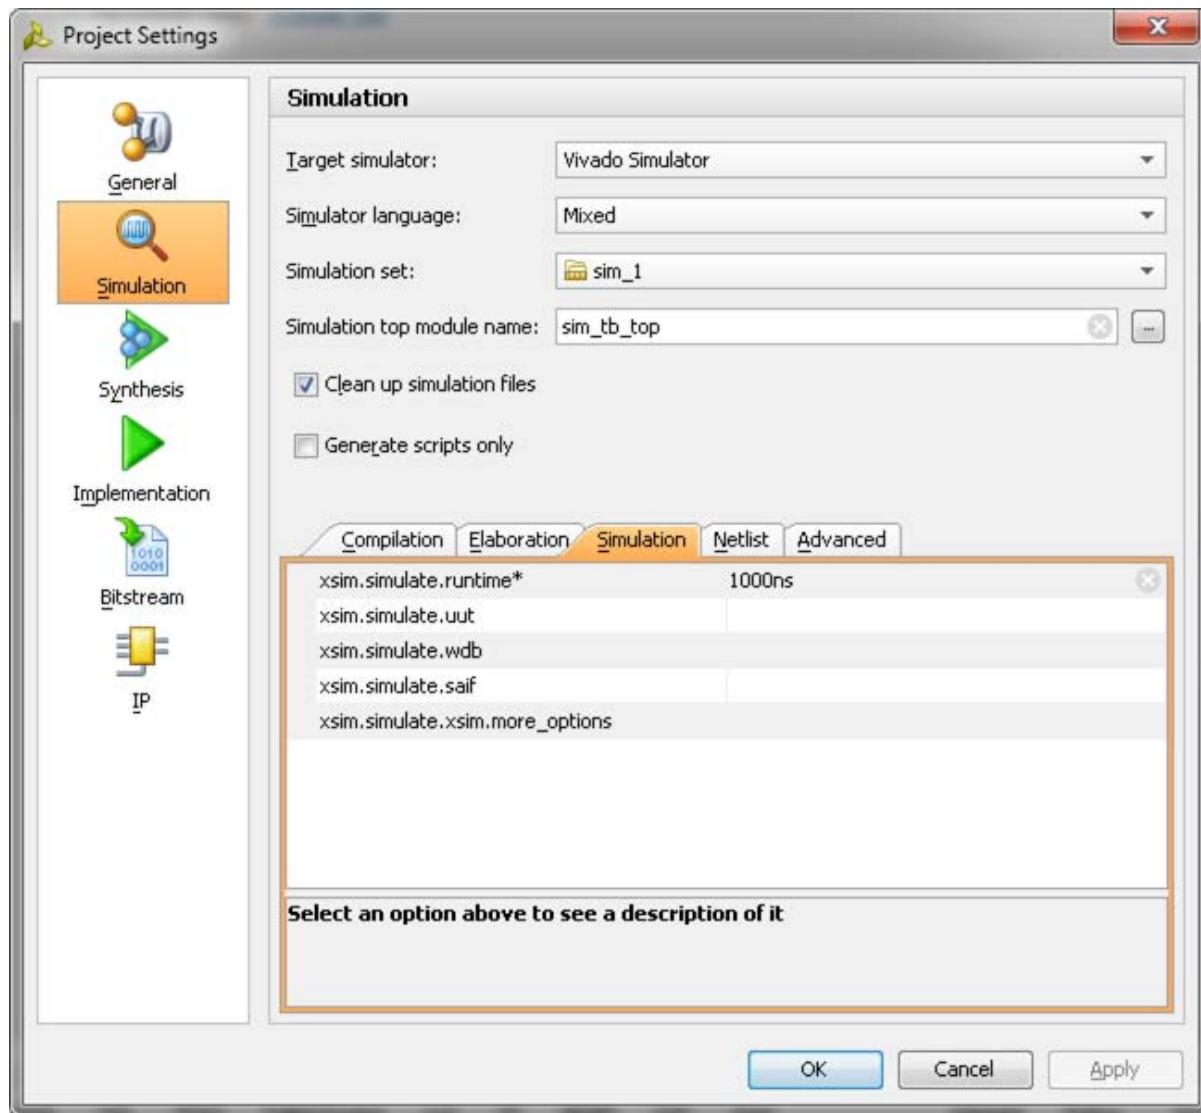

Figure 3-64: Simulation with Vivado Simulator
1. In the **Open IP Example Design** Vivado project, under **Flow Navigator**, select **Simulation Settings** (Figure 3-64).
- Under the **Simulation** tab as shown in Figure 3-64, set the xsim.simulate.runtime as 1 ms (there are simulation RTL directives which stop the simulation after certain period of time, which is less than 1 ms). Apply the settings and select **OK**.
- b. Under the **Simulation** tab, set the `modelsim.simulate.runtime` to 1 ms (there are simulation RTL directives which stop the simulation after certain period of time, which is less than 1 ms), set `modelsim.simulate.vsim.more_options` to `-novopt` as shown in Figure 3-64.